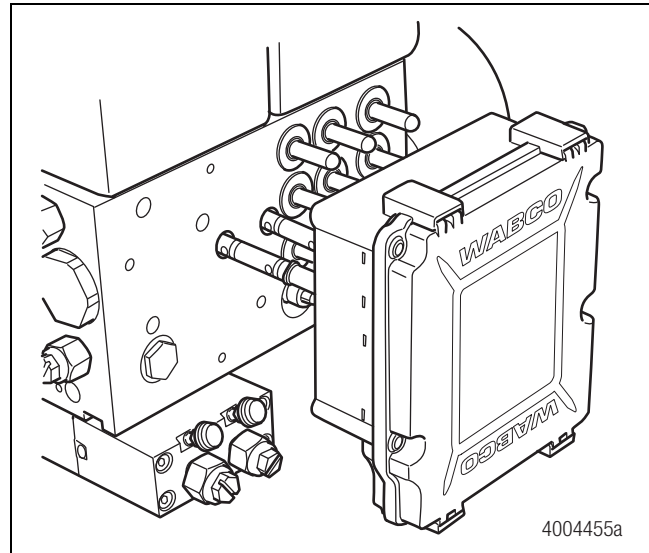

Figure 4.22
2. Position the ECU onto the HCU valves. Apply gentle pressure to seat the ECU. Motor connectors must achieve full depth into the housing. The gap between the HCU and ECU must not exceed 0.08-inch (2 mm). Figure 4.22.